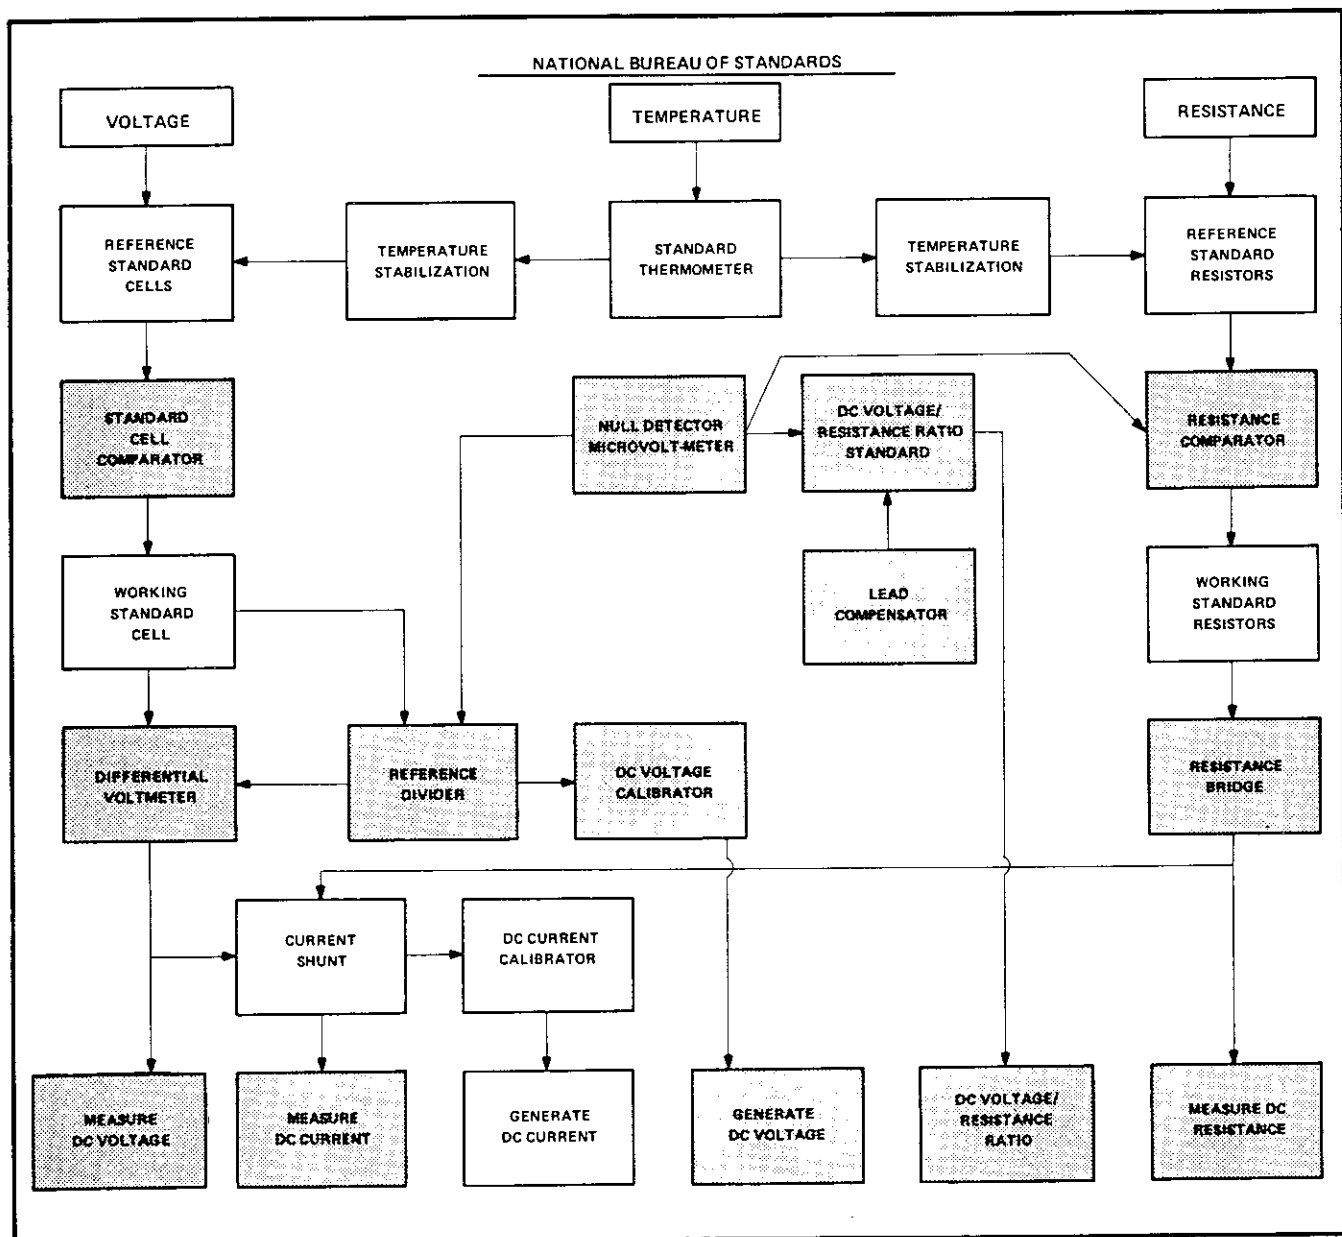

Figure 3-7. DC VOLTAGE, CURRENT AND RESISTANCE TRACEABILITY TO NBS
3-26. The lines of traceability from the National Bureau of Standards to the standards of a standards laboratory enabling that laboratory to measure and generate dc voltage and current and to measure dc resistance are shown in Figure 3-7. As indicated by Figure 3-7, three references are required to establish the accuracy of these measurements to the legal standards maintained by NBS; (1) Saturated standard cells, (2) Standard resistors, (3) Standard
Model 721A are represented by the shaded blocks of Figure 3-7.